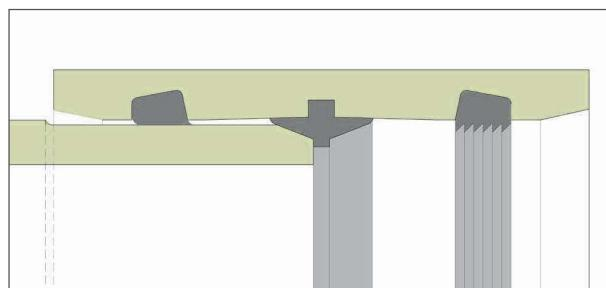

Fig. 24: FPCA coupling
5.1.3. PRESSURE COUPLING ANGULAR /FPCA (FIG. 24)